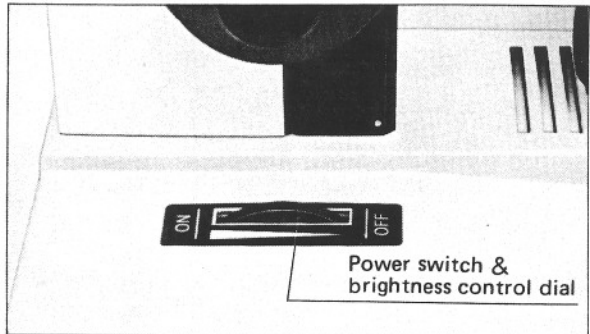

Fig. 17
- 3) Turn the power switch & brightness control dial to light the lamp. (Fig. 17)